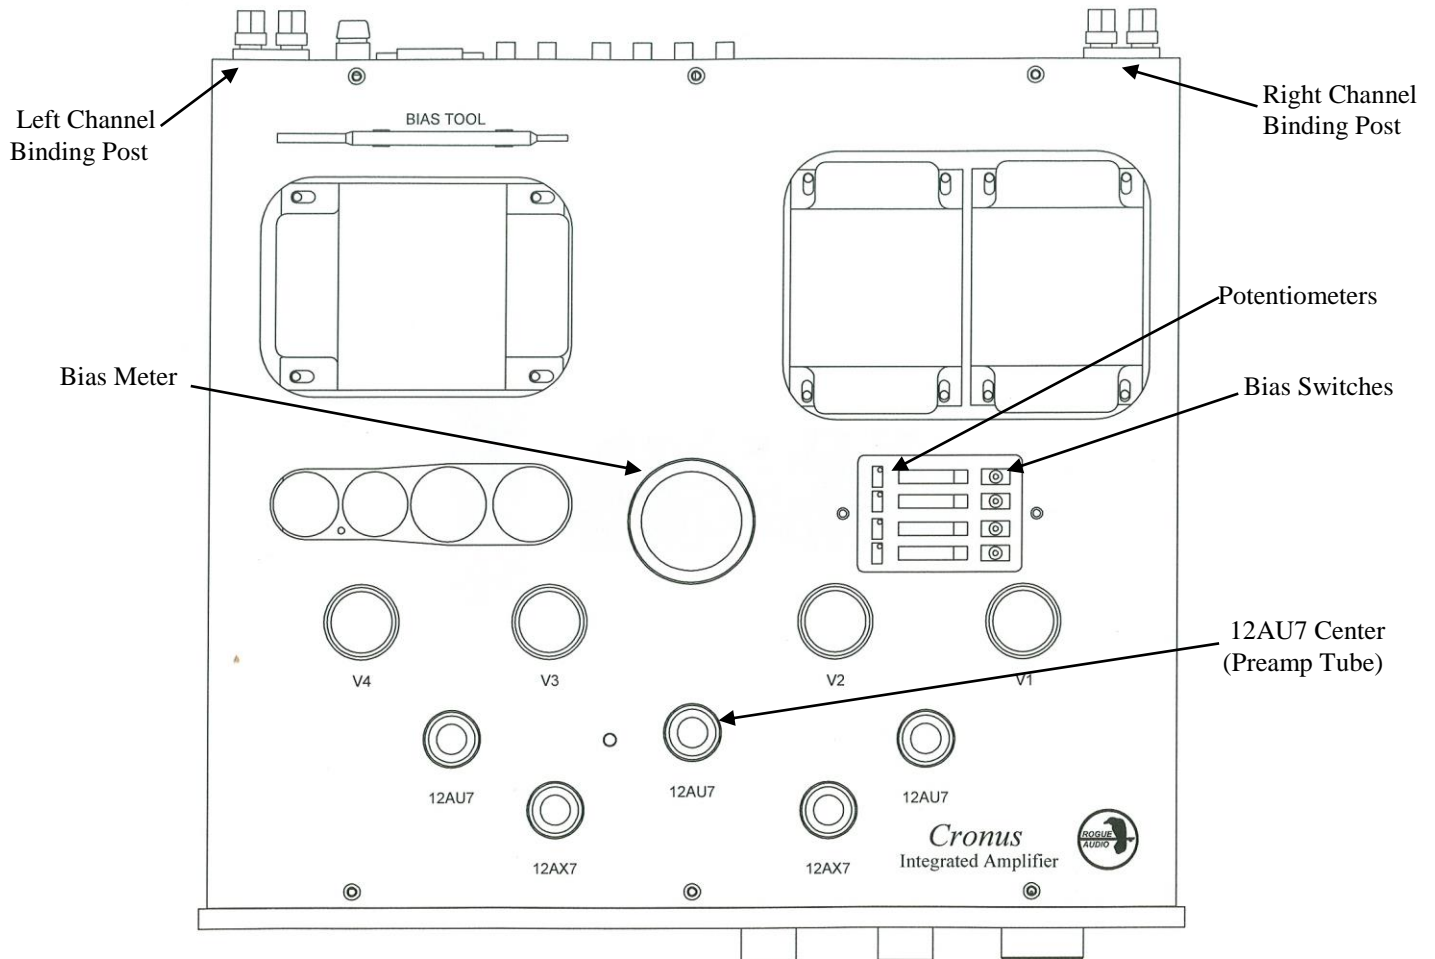

Figure 1. Tube and Deck Layout
3. Insert the tubes into the proper locations. Refer to Fig. 1 The output tubes will be marked per the figure. (ie V1,V2, etc.). The small signal tubes have been installed at the factory.
The headphone jack is located on the front faceplate of the amplifier, as shown in figure 1. The Cronus headphone jack provides for a 1/4" or 6mm headphone connector. If you have headphones with a different size connector, you can use a suitable adapter. It is normal for a very small amount of sound to come out of the loudspeakers when the headphones are plugged in (you can hit mute to completely silence your speakers).
- 5) The bias tool is snap attached to the top deck cover behind the power transformer. Refer to Figure 1.